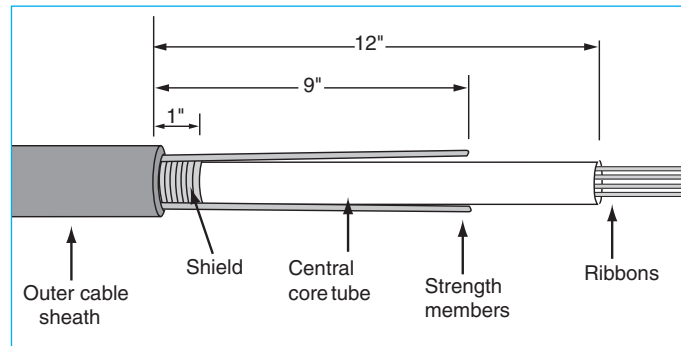

Figure 10.
7.4.2 Carefully cut the central core tube 9" from the sheath ring cut (Figure 10).